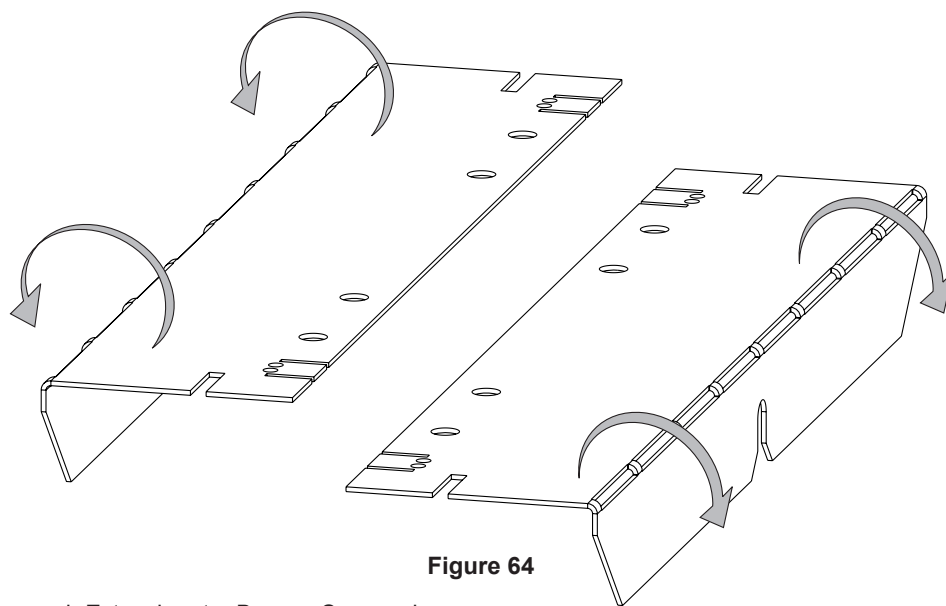

Figure 64
1. Retrieve Burner Surround Extensions from the instruction envelope package and hand form the pair as shown in **Figure 64**.